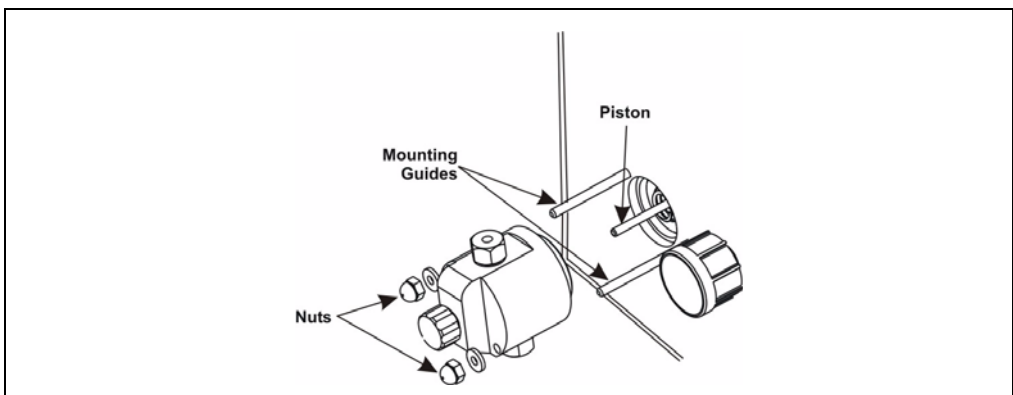

Figure 5-6. Removing the Pump Head
4. Hold the head firmly against the pump housing, to compensate for the spring loading, and remove the two nuts (see Figure 5-6).
CAREFULLY disengage the head from the sapphire piston by pulling the head straight off and away from the mounting guides (see Figure 5-6). Be especially careful not to snap the piston if the internal spring sticks to the piston guide.
5. Slowly release the head and allow it to separate from the housing. **CAREFULLY** disengage the head from the sapphire piston by pulling the head straight off and away from the mounting guides (see Figure 5-6). Be especially careful not to snap the piston if the spring is stuck to the piston guide.